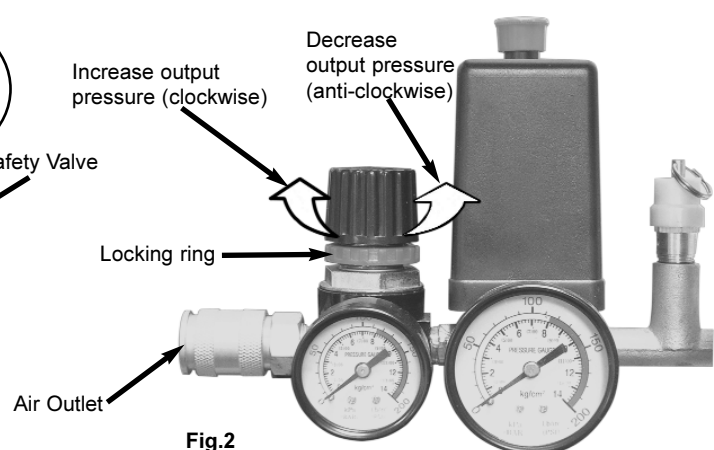

Fig.2
- 4.5. It is possible to adjust the the outlet pressure by turning the regulator knob (Fig.2 clockwise or anticlockwise to respectively increase or reduce the outlet pressure to the desired level. When the desired outlet pressure is achieved use the locking ring (fig.2) to lock the pressure regulator to your desired setting.